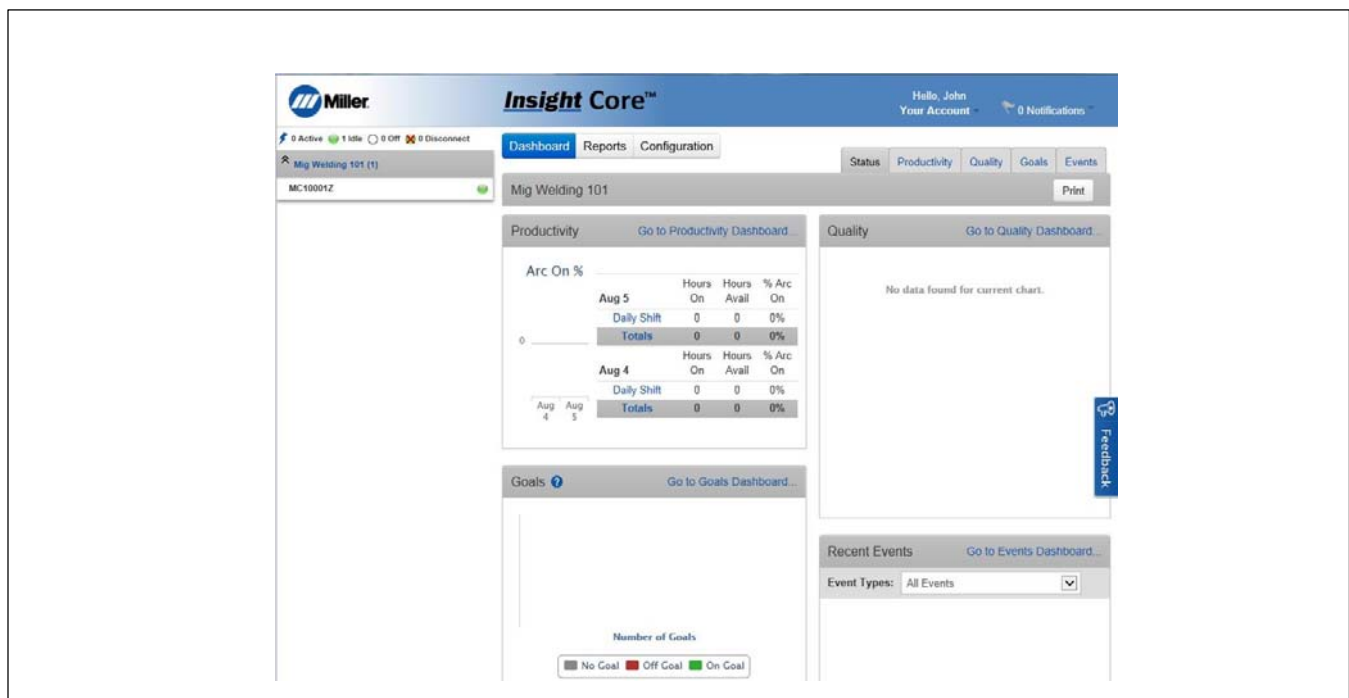

Figure 10-19. Insight Core Company Dashboard
3. After clicking on the Register button, the homepage for the company that was just created will appear (see Figure 10-19).